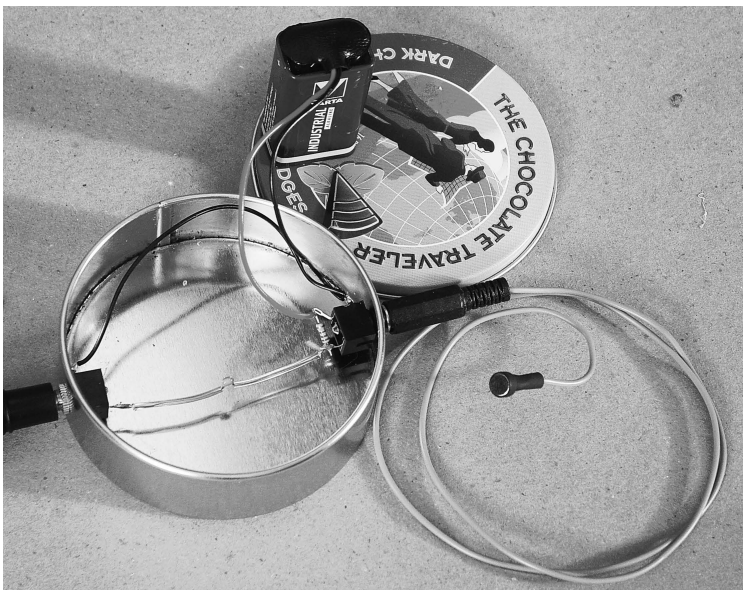

Figure 11.5
One solution is to run some shielded cable from the electret element to a remote power supply, in the form of a small box containing the battery and related components (another excellent use for abandoned Altoids tins), and then run another cable from this box to whatever plug you are using to connect to the rest of your audio system. You can simply pass the wires through holes in the box, or you can install an additional set of jacks (Figure 11.5).
- Encase it in heat-shrink tubing (as shown in Figures 11.5 and 11.7). Heat shrink comes in a range of diameters and can usually be found at ordinary neighborhood hardware stores. Select a diameter a bit wider than the capsule, cut a piece an inch or so long, and slip it over the mike so that one end is flush with the front surface of the capsule. Aim a blow dryer or heat gun at the tubing and it should shrink down to fit as snugly as the sweater on a Littleneck clam (if it shrinks down over the front of the mike, you can trim it with a razor blade).